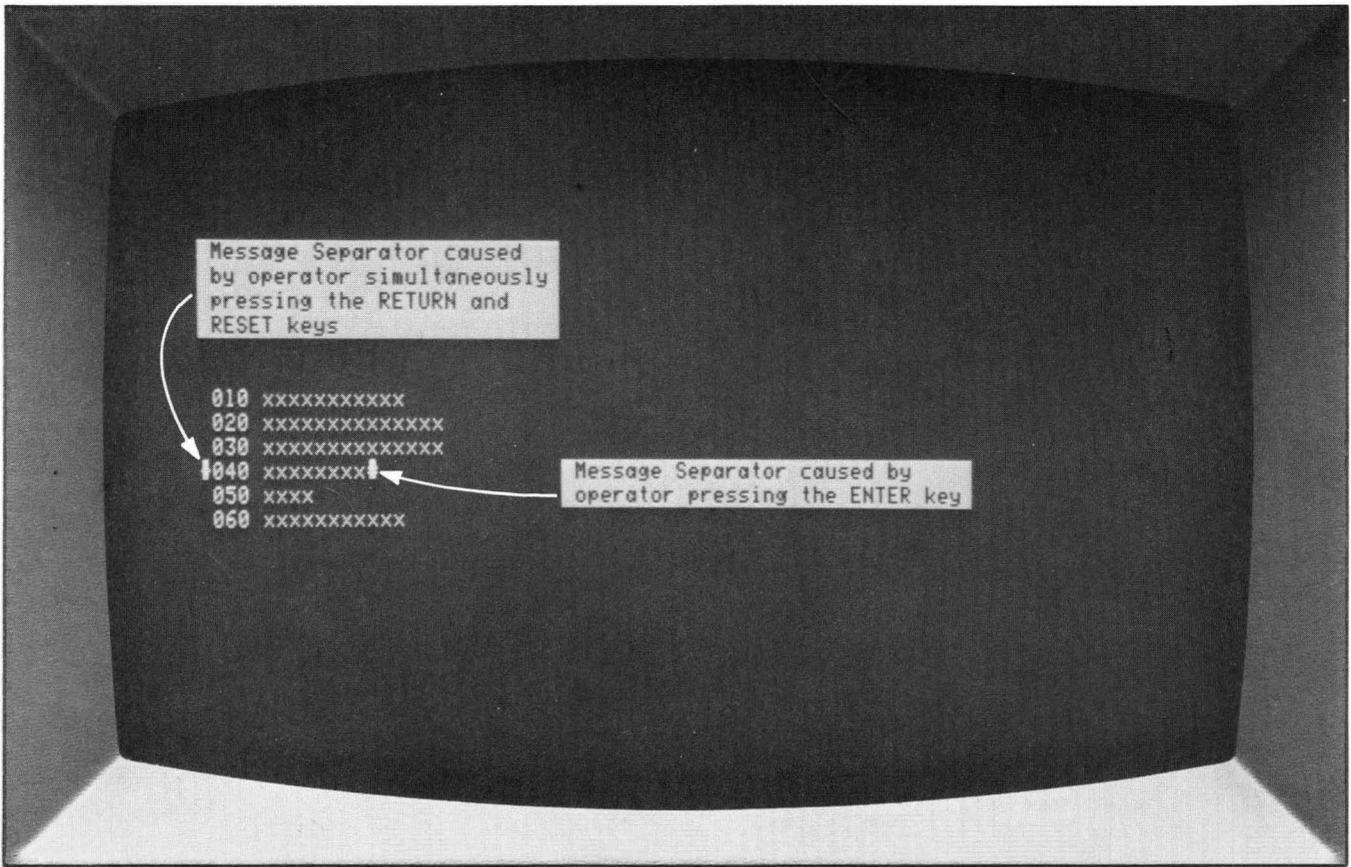

Fig. 1-13. Using Message Separators for selective input.
**USE OF MESSAGE SEPARATORS.** Figure 1-13 shows how the Message Separators can be used to input specific data. Assume that the string of data shown is a computer